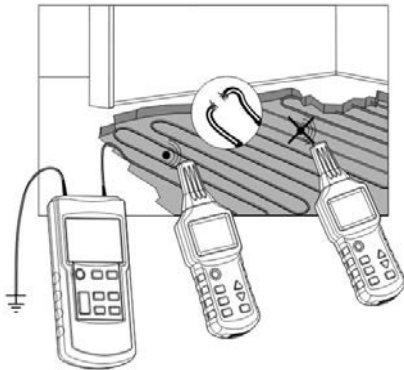

Fig. 13a
- All unused lines must be grounded as shown in Fig. 13a.
- A second transmitter is not essential for this application. (For an application with only one transmitter, refer to Fig. 13a.)